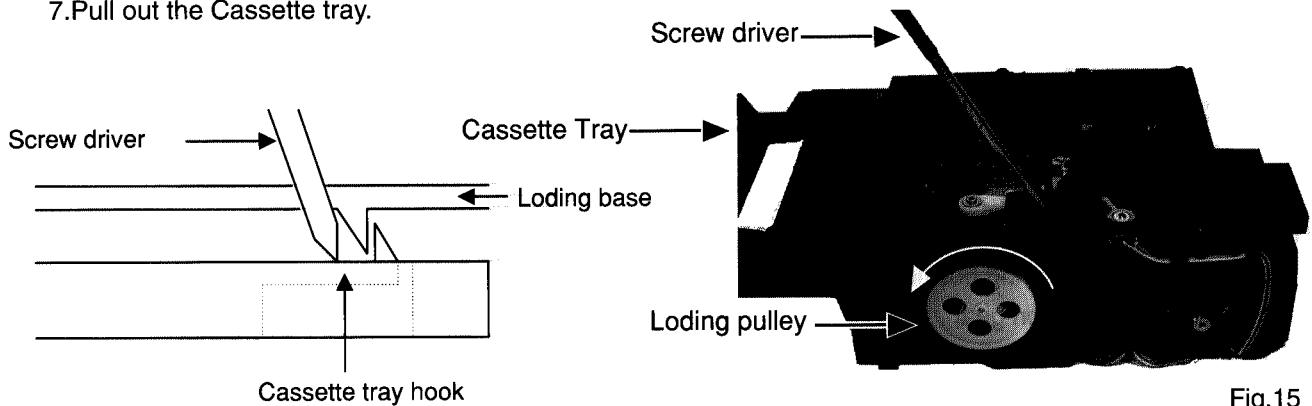

Fig.15
- 5.Rotate the loading pulley counterclock wise ,and open the Cassette tray.(Fig.15)